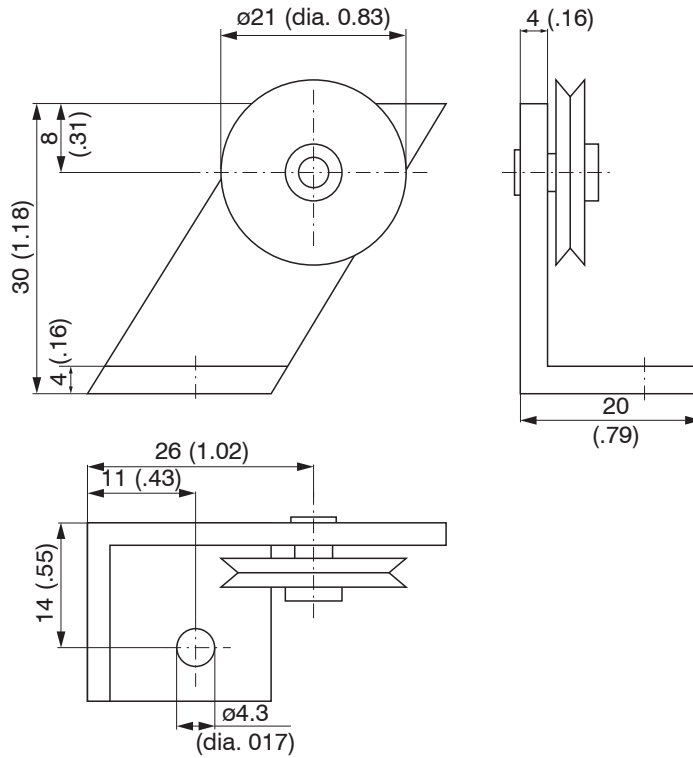

Fig. 8 Deflection pulley TR3-WDS with mounting foot, dimensions in mm, not to scale
- TR3-WDS Wire deflection pulley with mounting foot, see Fig. 8